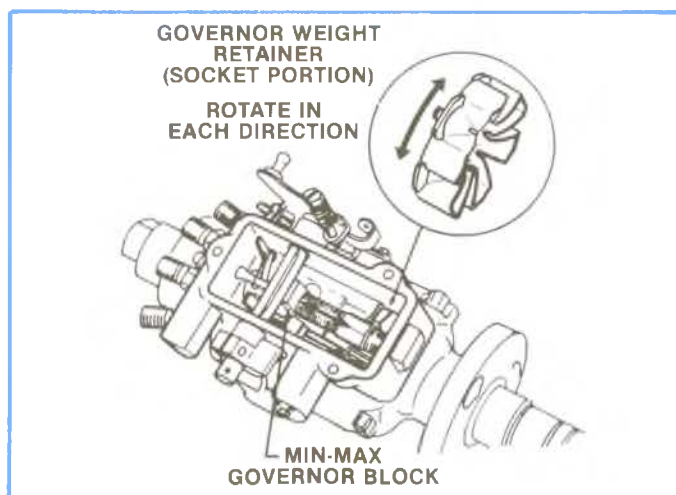

Figure 7-10
- Check for failed flex ring by attempting to rotate the socket portion of the retainer by hand or with a screwdriver blade (Figure 7-10). If the retainer can be rotated more than 1/16th of an inch in either direction and doesn't return when pressure is released, then a failed flex ring is indicated. See Oldsmobile Dealer Technical Bulletin 80-T16 for instructions regarding flex ring replacement.